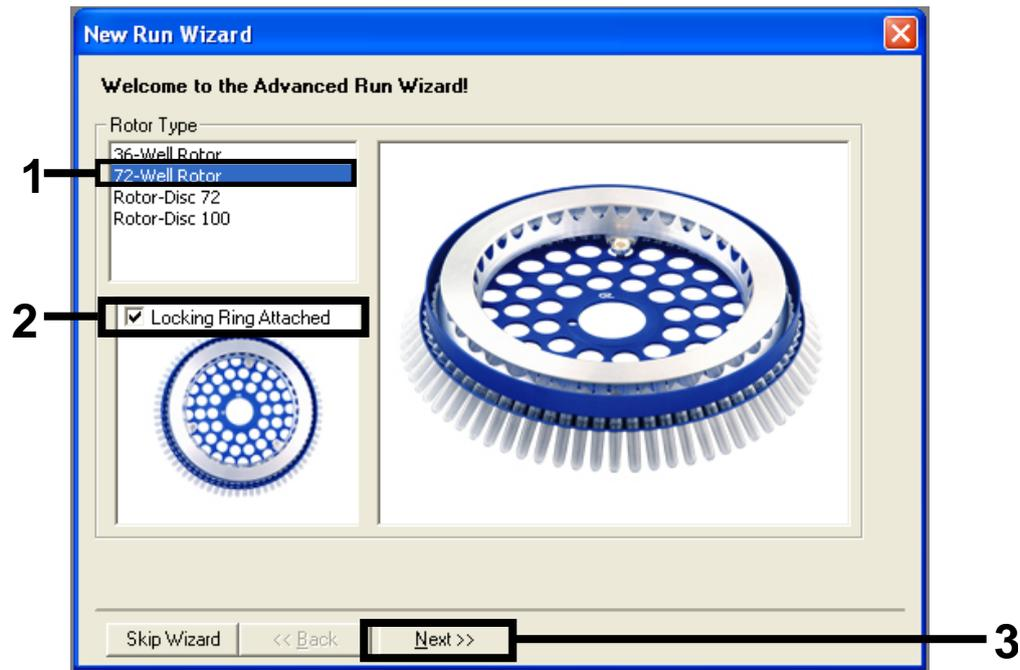

Figure 20. The "New Run Wizard" dialog box (1 = "Rotor type"; 2 = "Locking Ring Attached" box; 3 = "Next" button).
3. Select 72-well rotor as the rotor type. Confirm that the locking ring is attached and check the "Locking Ring Attached" box. Click "Next" (Figure 20).